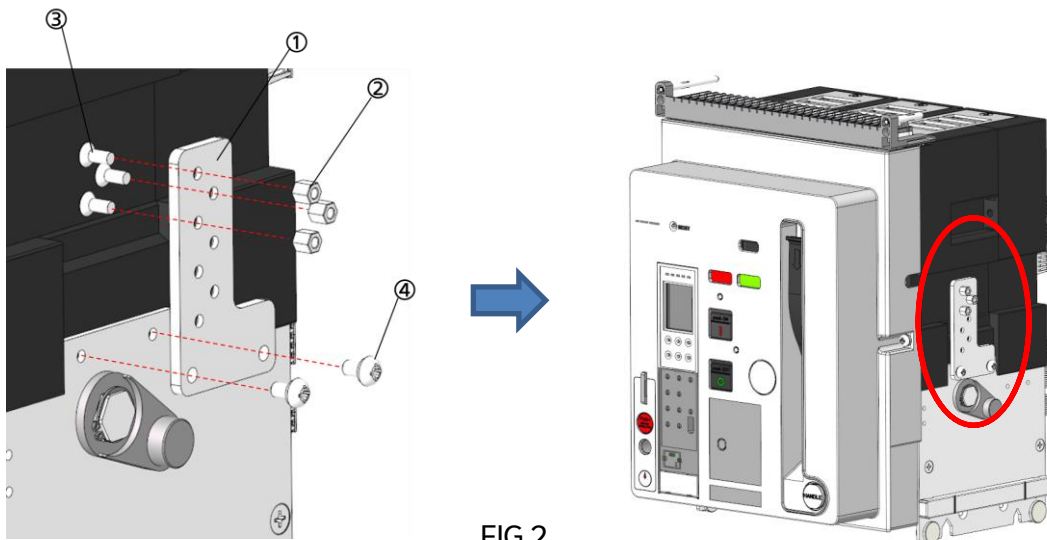

FIG 2
(플레이트 방향에 유의) [FIG 2]
(Give attention to the plate direction) [FIG 2]
[FIG 2]
(3) Using the No. 4 round-head screw, fasten Part No. 1 Plate to the tap located at the rear-right side of the ACB main body. [FIG 2]